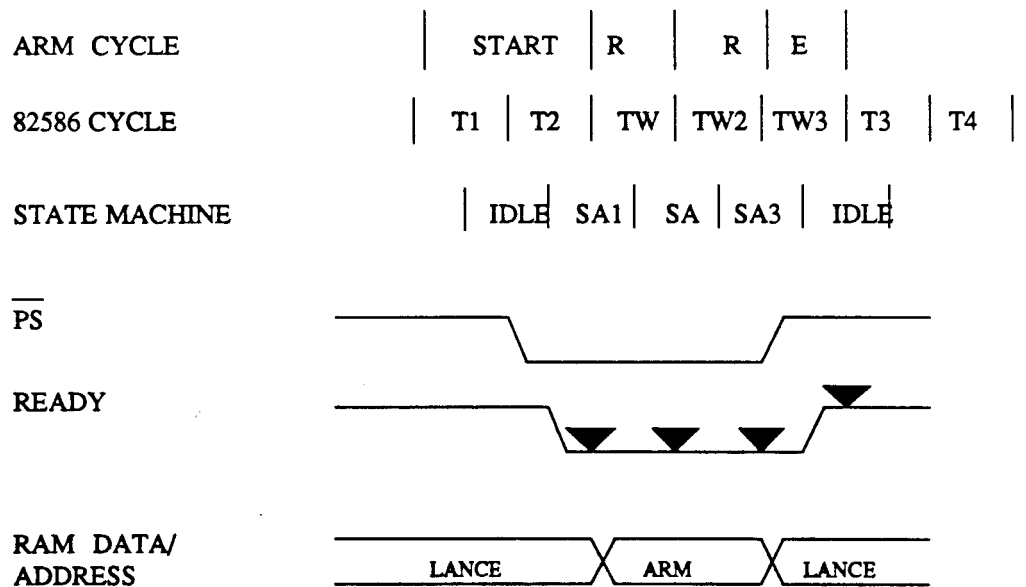

Figure 21.5 : Access collision cases - PS\* while LANCE is in T2
**PS\* while the LANCE is in T.2: Figure 21.5:**
The LANCE samples READY deasserted at the end of T2 (SA1), TW I (SA2), TW2 (SA3), so the maximum of three wait states are inserted. Since three wait states is the worst case this is shown in more detail in Figure 21.5.